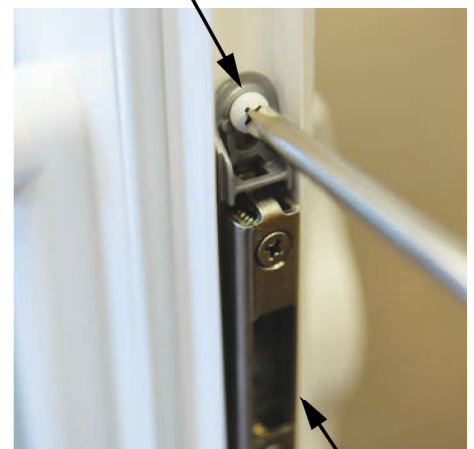

Figure 6
8. Remove the #8 x 1/2" screws from the lock keeper and replace them with #8 x 2-1/2" screws that are provided with the door (figure 6). These screws will penetrate the door jamb and will secure into the wood frame of the home. To ensure the proper support of the jamb and the strike, shimming the full length of the lock strike must be placed between the door jamb and wood rough opening framing before tightening the fasteners. This additional shimming at the door strike location is critical also, please do not over tighten the door strike screws as this may deform the door frame preventing the operating panel from fully closing.